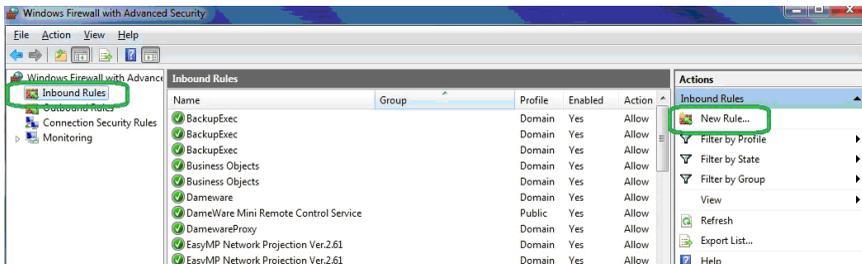

FIGURE 2-41 Windows® Firewall with Advanced Security - New Rule
Step 15 On the Windows Firewall with Advanced Security screen, click **Inbound Rules**, as shown in FIGURE 2-41.
Step 16 Click **New Rule...**, as shown in FIGURE 2-41.